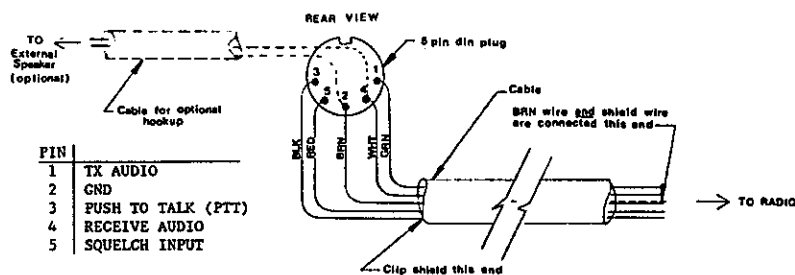

Figure 2-2 Radio-to-PK-90 Connections
- o Verify that your radio and PK-90 are connected as shown in Table 2-1 earlier in this manual, and Figure 2-2 below.
1. Connect the PK-90 and FM radio as shown in Figure 2-2.
1. Connect the PK-90 and SSB radio as shown in Figure 2-2.